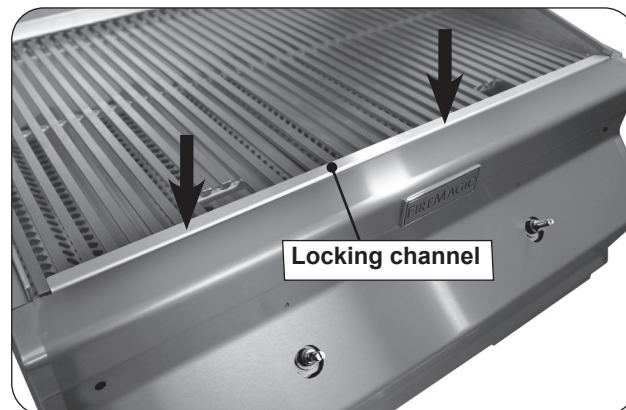

Fig. 29-2 Install cooking grid with locking channel
2. With the channel attached to the control panel, carefully reinstall the control panel back onto the grill. Ensure the locking channel is laying flat on the cooking grids. See Fig. 29-2.